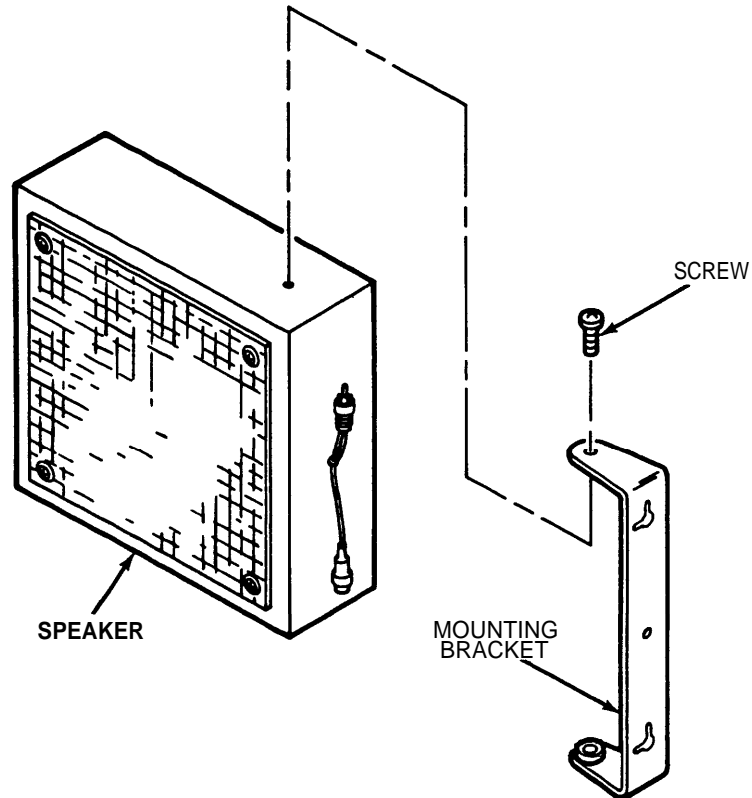

Figure 2-12. Universal Cabinet Speaker Mounting
The Cabinet Speakers are designed for mounting on a wall or ceiling (Figure 2-12). Mount as follows:
4. After mounting the bracket, use the screws taped to the top of the cabinet speaker to attach the speaker to the bracket as shown in Figure 2-12.